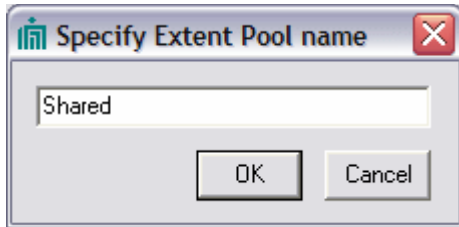

Figure 4-60 Name of the new extent pool
- g. In the Specify Extent Pool name window (Figure 4-60), enter the name of the new extent pool, and click **OK**.